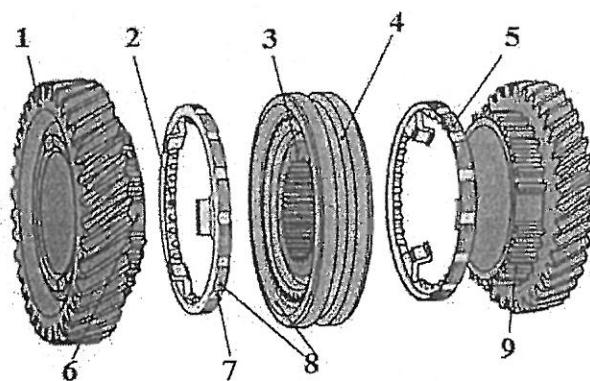

Figure 2
- Annotate the components of figure 2.